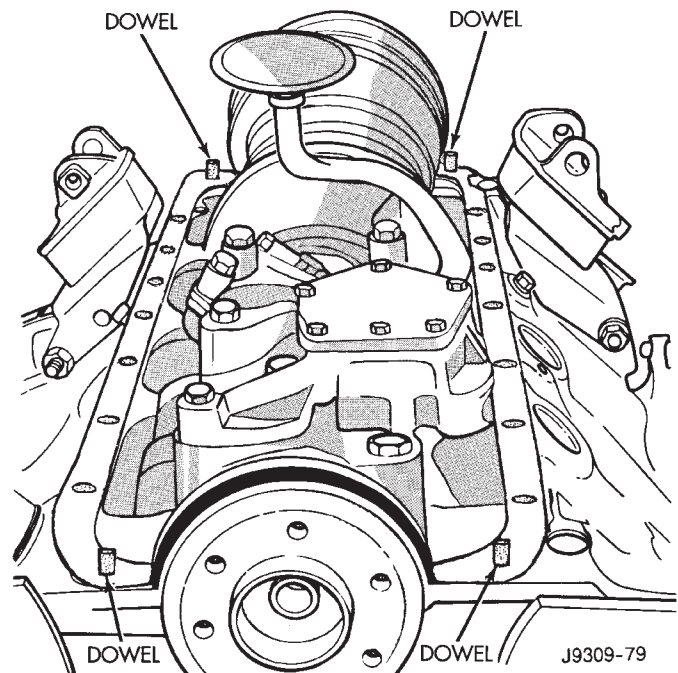

Fig. 43 Position of Dowels in Cylinder Block
- (2) Install the dowels in the cylinder block (Fig. 43).
- (3) Apply small amount of Mopar Silicone Rubber Adhesive Sealant, or equivalent in the corner of the cap and the cylinder block.
- (4) Slide the one-piece gasket over the dowels and onto the block.
- (5) Position the oil pan over the dowels and onto the gasket.
(2) Install the dowels in the cylinder block (Fig. 43).
(3) Apply small amount of Mopar Silicone Rubber Adhesive Sealant, or equivalent in the corner of the cap and the cylinder block.
(4) Slide the one-piece gasket over the dowels and onto the block.
(5) Position the oil pan over the dowels and onto the gasket.
(6) Install the oil pan bolts. Tighten the bolts to 24 N·m (215 in. lbs.) torque.
(7) Remove the dowels. Install the remaining oil pan bolts. Tighten these bolts to 24 N·m (215 in. lbs.) torque.
(8) Install the drain plug. Tighten drain plug to 34 N·m (25 ft. lbs.) torque.
(9) Install front driving axle (refer to Group 3, Drive Axles and Group 2, Front Suspension for the proper procedures).
(10) Install exhaust pipe.
(11) Lower vehicle
(12) Connect the distributor cap.